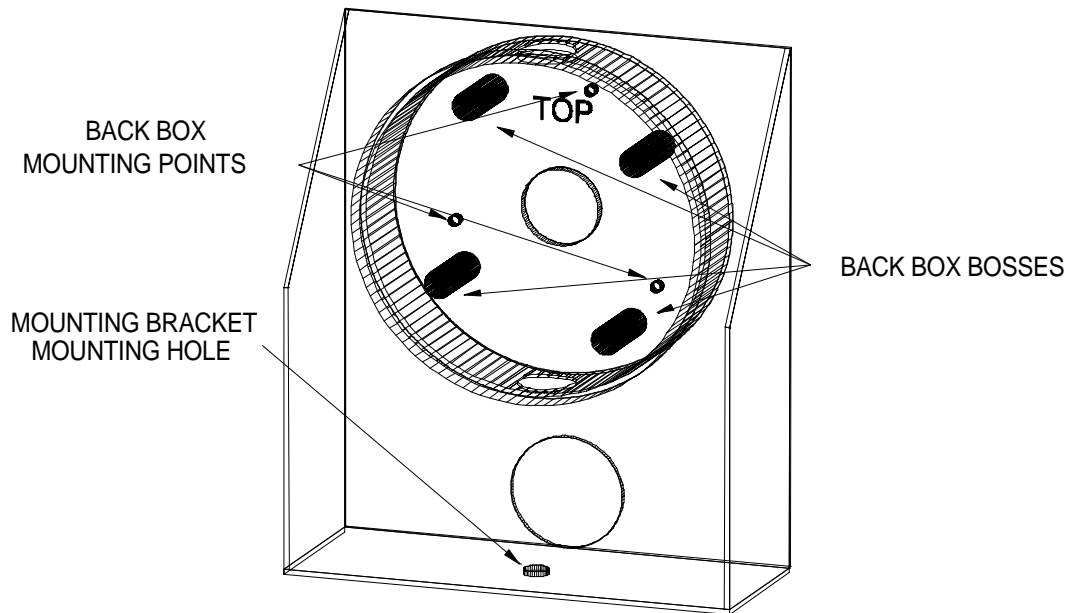

Figure 11 Back Box Mounting Points
8. Attach the weatherproof back box to the mounting bracket using the provided 6-32 x 5/8" screws and 6-32 gold nuts as shown in figure 11.